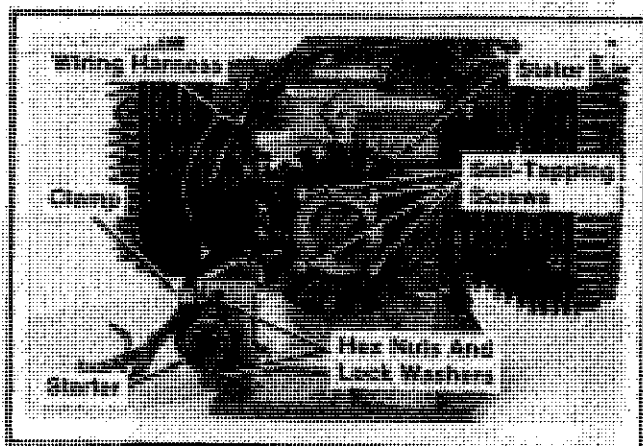

Figure 9-20. Removing Electric Starter And Stator.
1. Remove the hex nuts, split lock washers, wiring harness clamp, wiring harness, and electric starter. Refer to Figure 9-20.
1. Remove the self-tapping screws and stator. Refer to Figure 9-20.